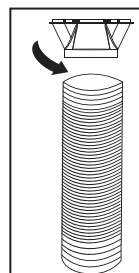

Fig. 2
2. Extend the other side of the hose and screw it on the hose outlet (Fig. 2). Attach adapter to window slider Panel B.